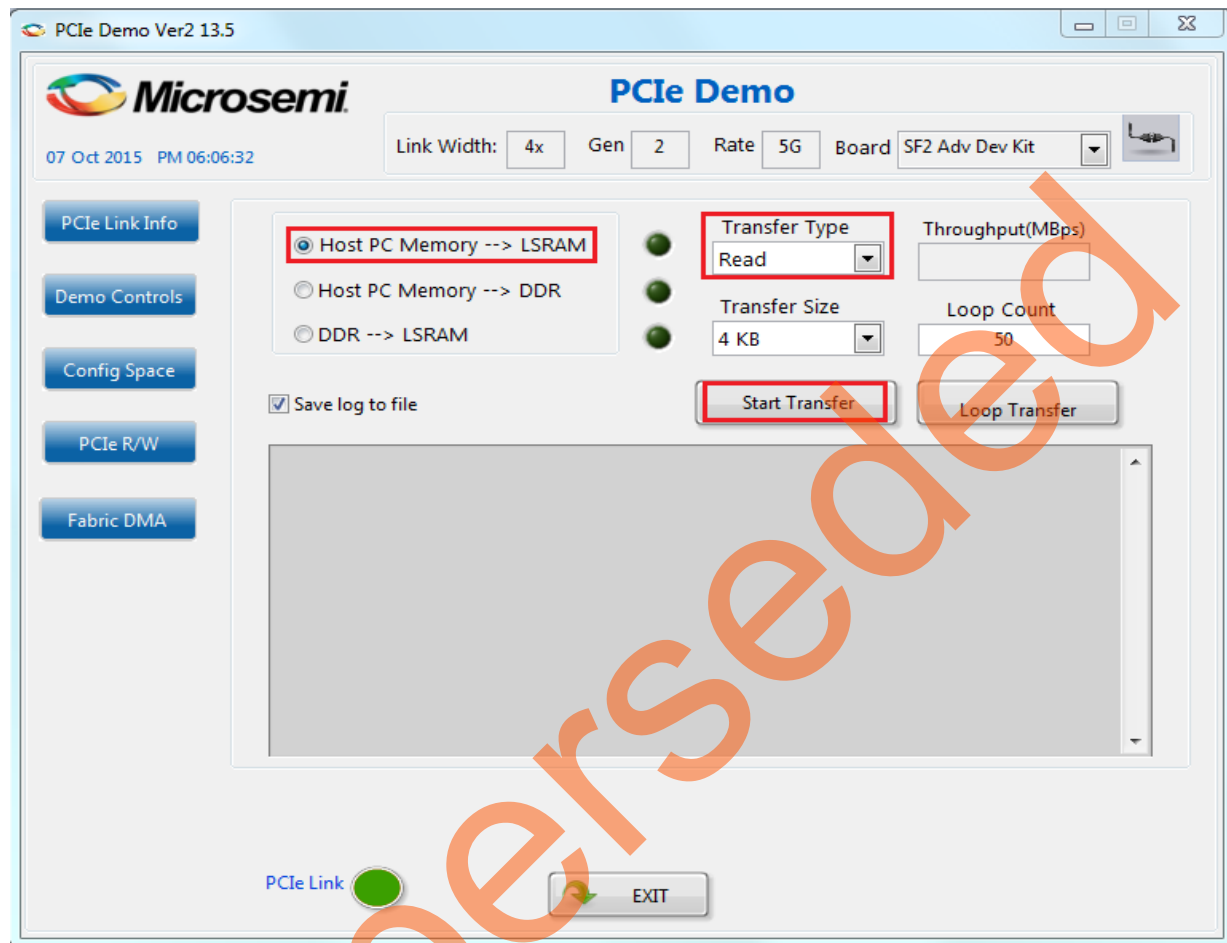

Figure 25 • DMA Transactions between Host PC Memory and LSRAM
15. Select **Transfer Type** as **Read** and then select **Host PC Memory - -> LSRAM** to execute DMA transactions from Host PC to LSRAM. Click **Start Transfer**. Figure 25 shows the Fabric DMA panel.